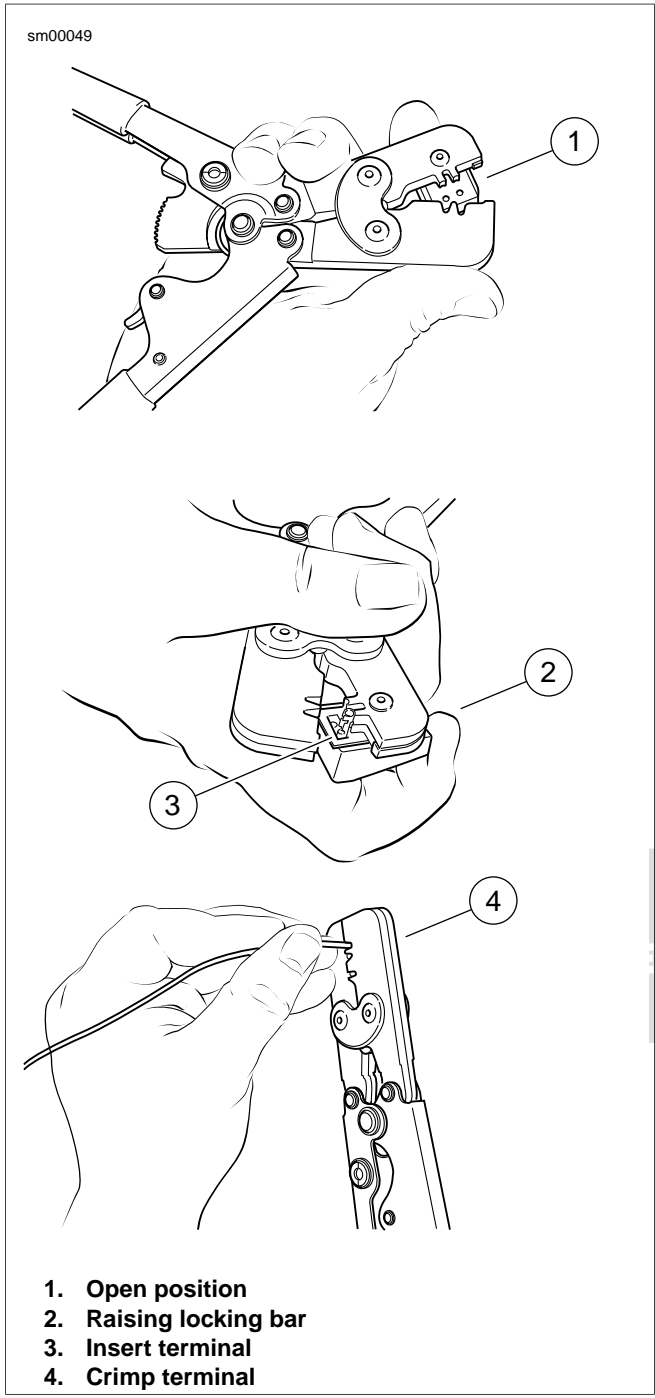

Figure A-51. Packard Micro 64 Connector: Terminal in Crimper
2. See Figure A-51. Squeeze the handles of the PACKARD MICRO-64 TERMINAL CRIMPER (Part No. HD-45929) to cycle the tool to the fully open position (1).
3. Raise locking bar and barrel holder by pushing up on bottom tab with index finger (2).
4. With the crimp tails facing upward, insert terminal through locking bar into front hole in barrel holder (20-22 gauge wire) (3).
7. Squeeze handle of crimp tool until tightly closed (4). Tool automatically opens when the crimping sequence is complete.